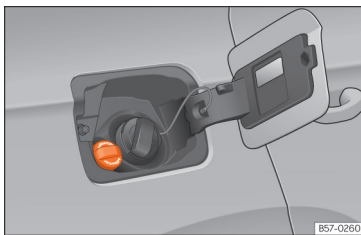

Fig. 211 AdBlue tank cap®.
- Open the tank cover >>> **Fig. 211.**
- Turn the SCR tank cap anti-clockwise >>> **Fig. 211.**